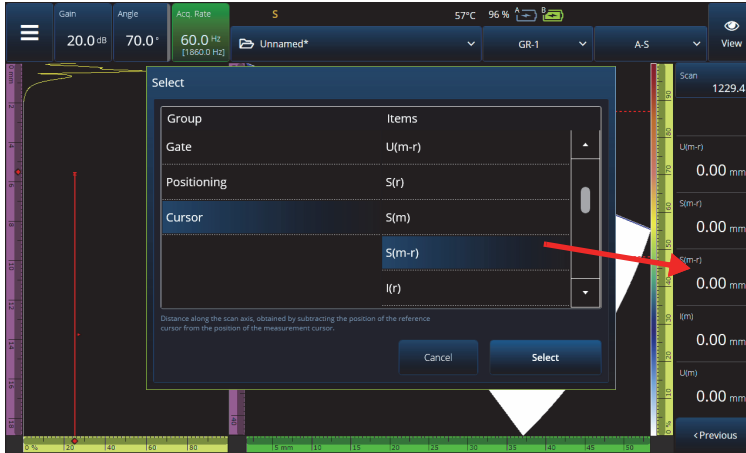

Figure 2-64 Reading selection example
- b) With **Select Reading**, you can replace one specific reading with any of the available readings (see Figure 2-64 on page 112).